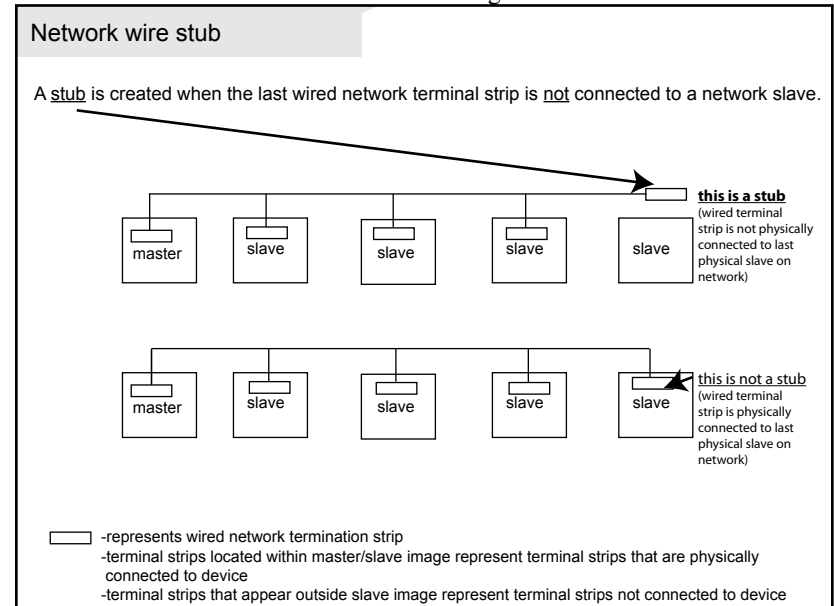

Figure 3.9
- **A stub is created when the last wired network terminal strip is not connected to a network slave - figure 3.9.
- The network must not include any stubs. **A stub is created when the last wired network terminal strip is not connected to a network slave - figure 3.9 - page 49.